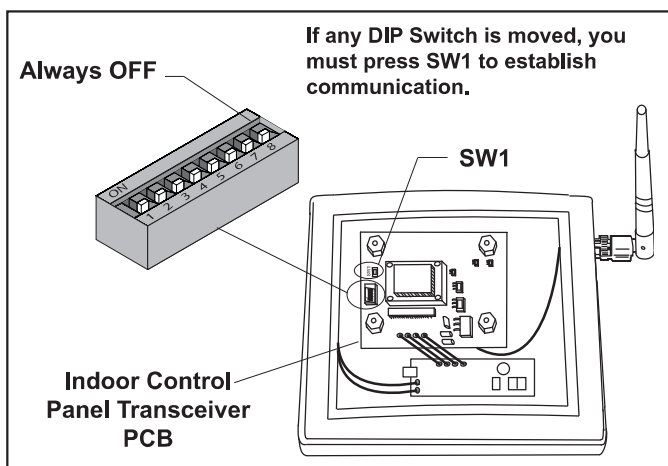

Figure 35. DIP Switch Settings at Wireless Indoor Control Panel
2. Locate the small set of DIP switches on the control panel PCB (see Figure 35). Except for DIP switch #8, turn on one or more DIP switches. ***Important-*** Before installing the control panel cover, press the reset button (SW1). Note which switches you have turned on then reinstall the cover and screws.